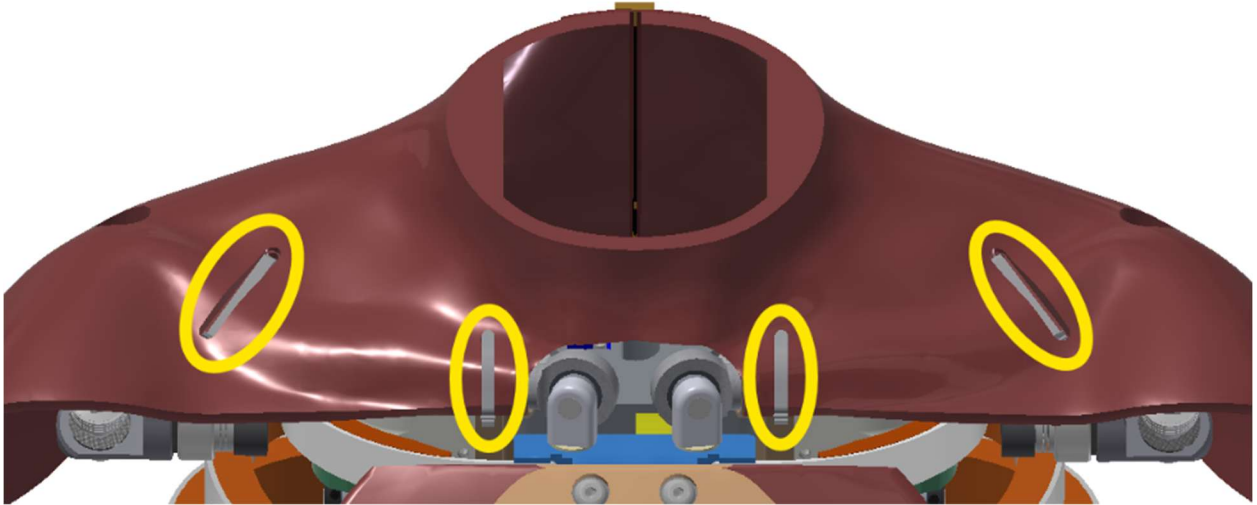
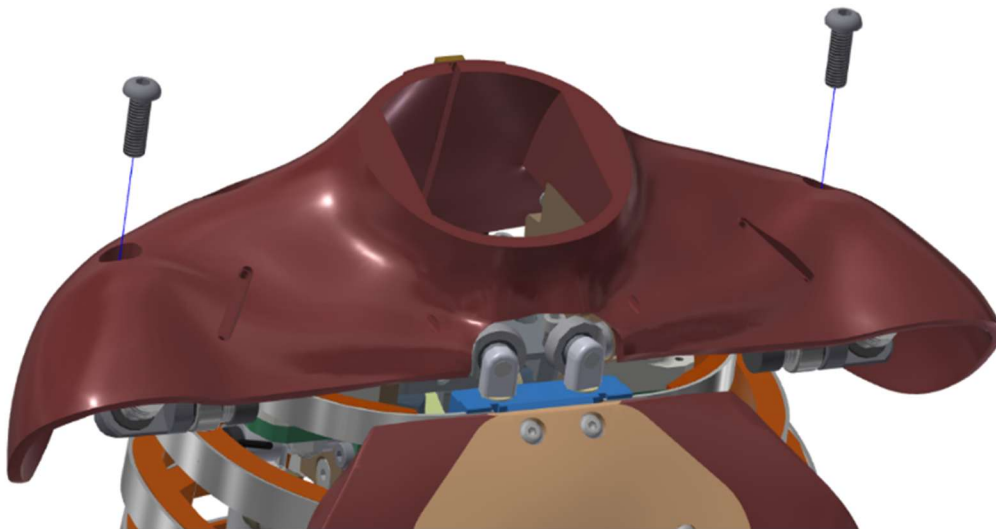

Figure 5-6. Cut four cable ties
Figure 5-7. Remove two M8 X 1.25 X 25 LG. BHCS
- 5.2.1 Remove the Shoulder Pad (474-3559-A) by cutting the 4 cable ties and removing two M8 X 1.25 X 25 LG. BHCS (Figure 5-6 and Figure 5-7).